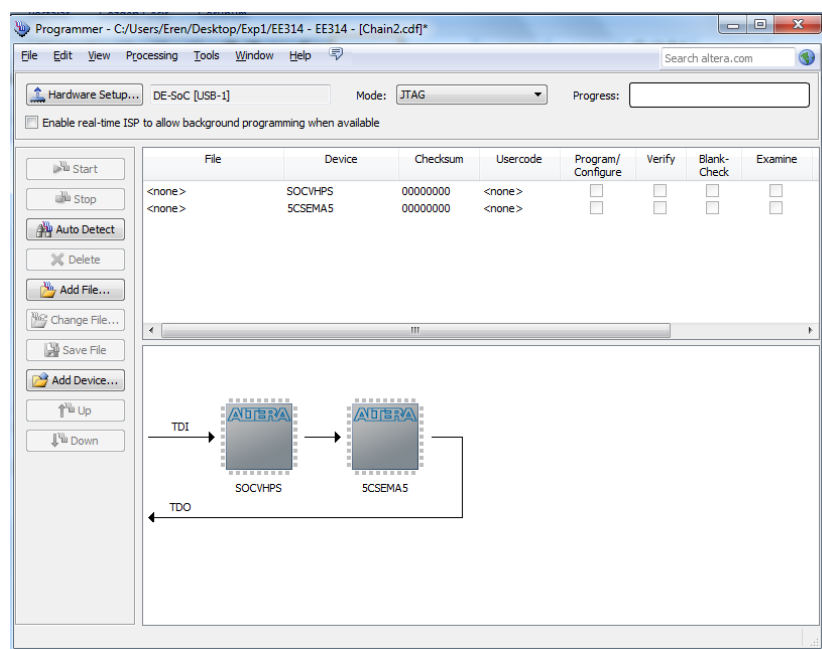

Fig. 16: Programmer window after step 4
- 4) Click on Auto Detect and then click on **5CSEMA5** and click on OK. Click **Yes** on the pop up window. After clicking **Yes** the screen should be similar to Fig. 16.